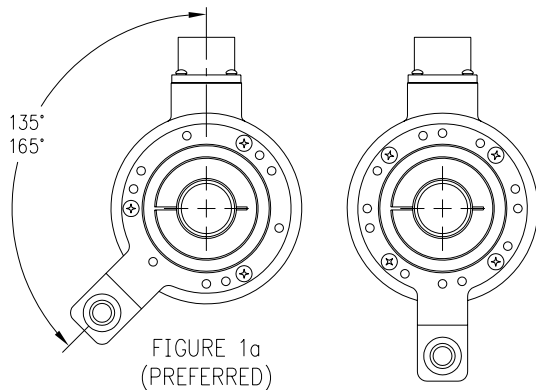

FIGURE 1a
- 2) USING A PHILLIPS SCREWDRIVER, MOUNT THE TETHER BRACKET TO THE FRONT OF THE ENCODER IN THE POSITION DESIRED, USING THE #8-32 SCREWS AND LOCKWASHERS SUPPLIED. FOR HS35M ONLY, **DO NOT USE THREADLOCKER**. FOR INSTALLATIONS REQUIRING AN ACCESSORY GUARD, THE TETHER AND OUTPUT TERMINATION MUST BE POSITIONED AS SHOWN IN FIG 1a. FOR HS25A ONLY, TETHER MAY BE POSITIONED AS SHOWN IN FIG. 1b.